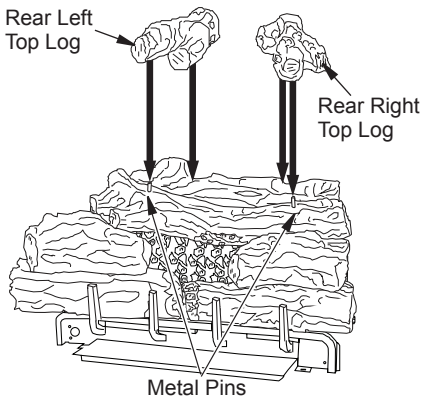

Figure 34 - Installing Rear Left Top Log and Rear Right Top Log
- Place the rear left top log on top of the middle log and the rear log. Match the pin on the middle log with the round hole in the bottom of the rear left top log (see Figure 34). The rear log has a flat area for the back of the rear left top log to set in.
- Place the rear right top log on top of the middle log and the rear log. Match the pin on the middle log with the round hole in the bottom of the rear right top log (see Figure 34). The rear log has a flat area for the back of the rear right top log to set in.